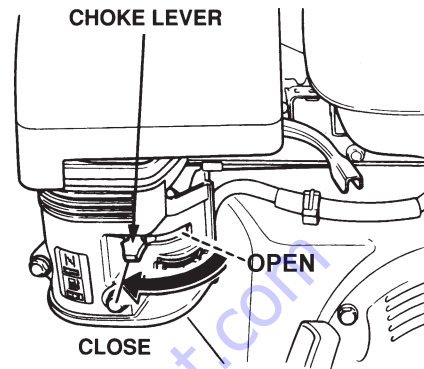

Figure 8. Engine Choke Lever
3. Place the engine **choke lever** (Figure 8) in the **CLOSED** position if starting a **cold engine**. Place the **choke lever** in the **OPEN** position if starting a **warm engine** or the **temperature is warm**.